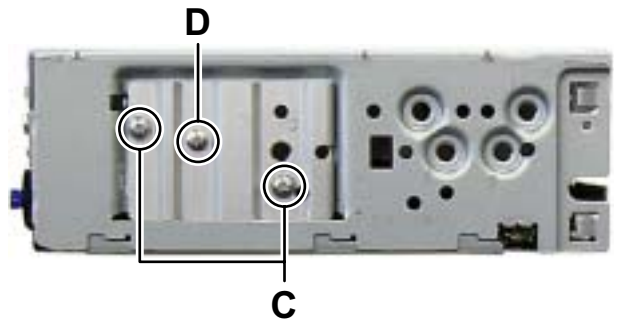

Fig.3
- (2) Remove the two screws **C** and the one screw **D** attaching the HEAT SINK. (See Fig.3)